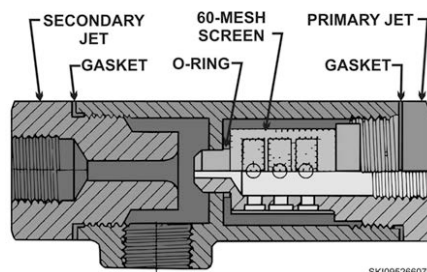

Figure 1-7. Ejector-strainer. (By courtesy of Cla-Val Co.)
The ejector-strainer is located at the inlet of the control tubing and aids in opening the 302AF valve. Figure 1-7 shows a cutaway of the ejector-strainer. Fuel enters the control through the holes under the 60-mesh screen, then moves to the left out of the primary jet (where the flow of fuel increases), and on through the secondary jet. (Recall that an increase in velocity creates a low pressure.)
Other components of the 302AF valve are the auxiliary hytrol valve (covered earlier), the control valve (CV) flow control (refueling valve opening rate), and the 4-port solenoid. The solenoid remotely operates the valve. When the solenoid is energized, the refueling side of the main valve opens and the defueling side closes. When the solenoid is deenergized, the opposite is true. Four lines connected to the solenoid (fig. 1-7) control the flow of pressure to the components of the main valve. Line 1 is the supply line and supplies the pressure to the solenoid control. Line 2 is the control tubing to the defueling section of the valve. Line 3 is the control tubing to the auxiliary hytrol valve cover chamber. Line 4 is the common drain line that relieves pressure to the defuel line and on back to the defuel tank.